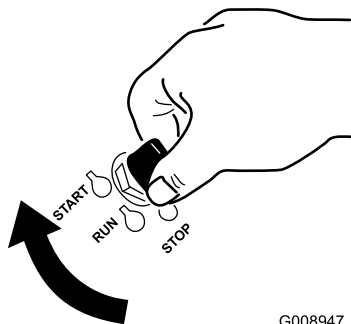

Figure 23
- Turn the ignition key to the START position (Figure 23).